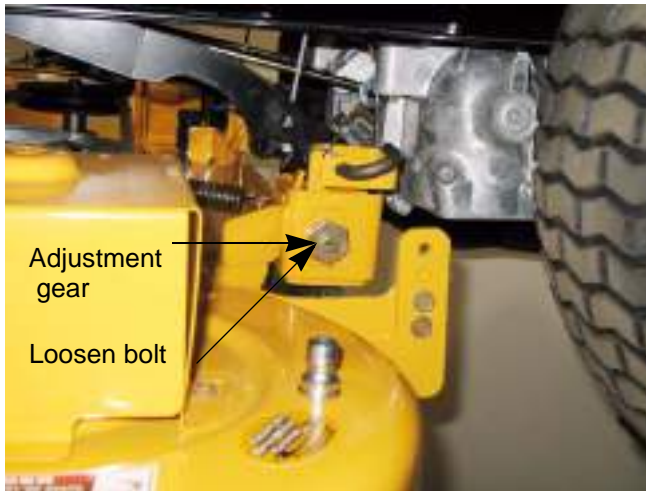

Figure 8.19
3. Working from the left side of the tractor, loosen, but do not remove, the bolt on the left deck hanger bracket. See Figure 8.19.
4. To level the deck turn the adjustment gear, located immediately behind the bolt. Turn the gear clockwise (rearward) to raise the left side of the deck. Turn the gear counter-clockwise (toward front) to lower the left side of the deck. See Figure 8.19.